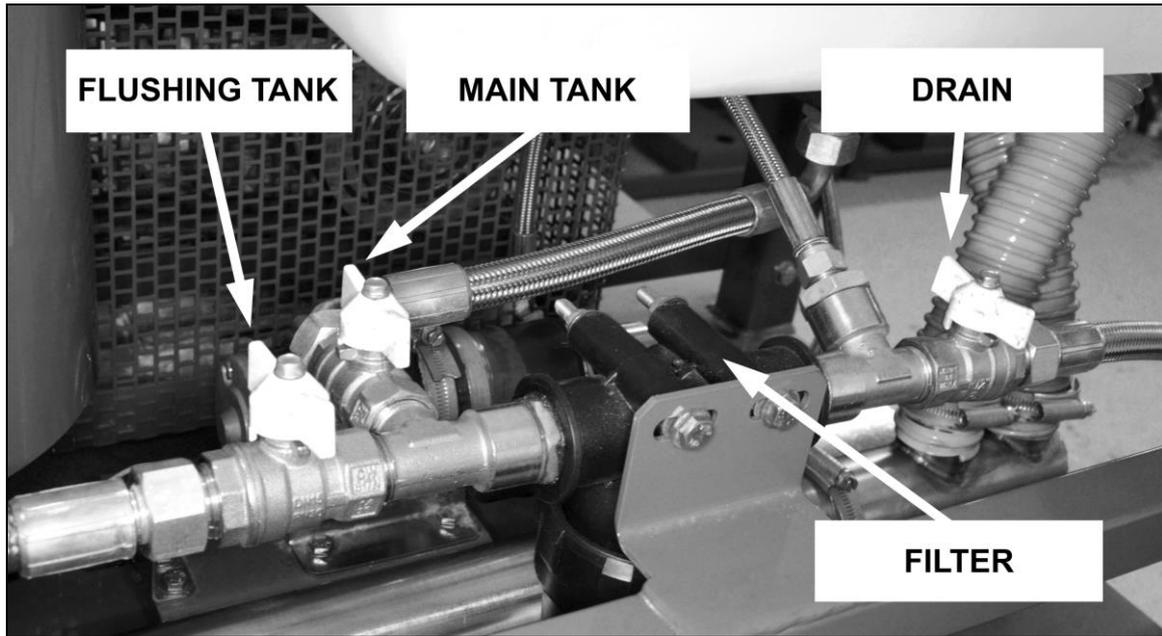

Fig. 2 – Valves & Filter Under Tank
1. Ensure that the ***Drain*** valve is CLOSED, the ***Main Tank*** valve is OPEN and the ***Flushing Tank*** valve is closed – see Fig. 2. Note that all valves are closed when the handle is at right angles to the valve body and open when the handle is parallel with the body.